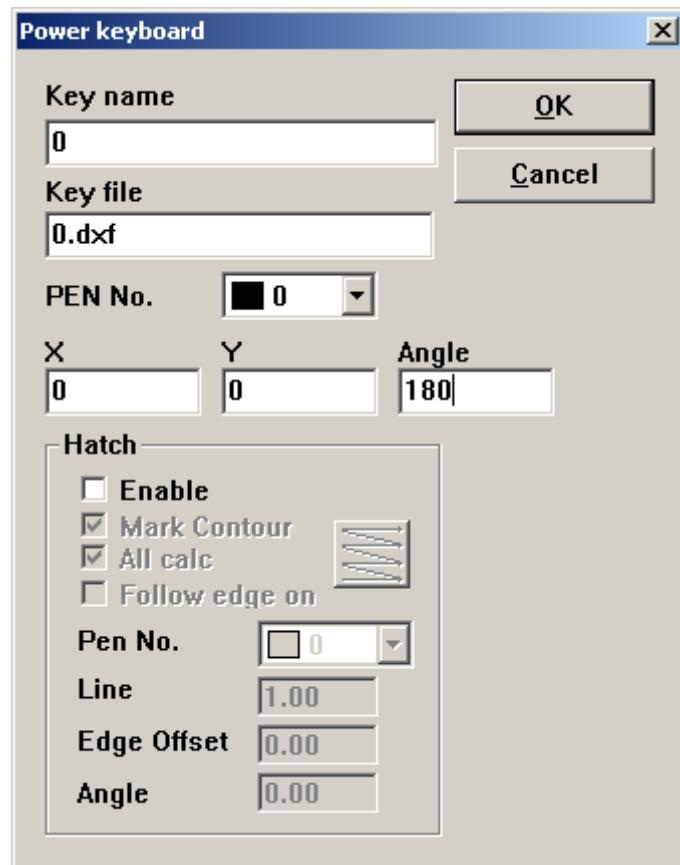

Figure 8-21
3. Click “Add” then the dialog box popup shown as Figure8-21: